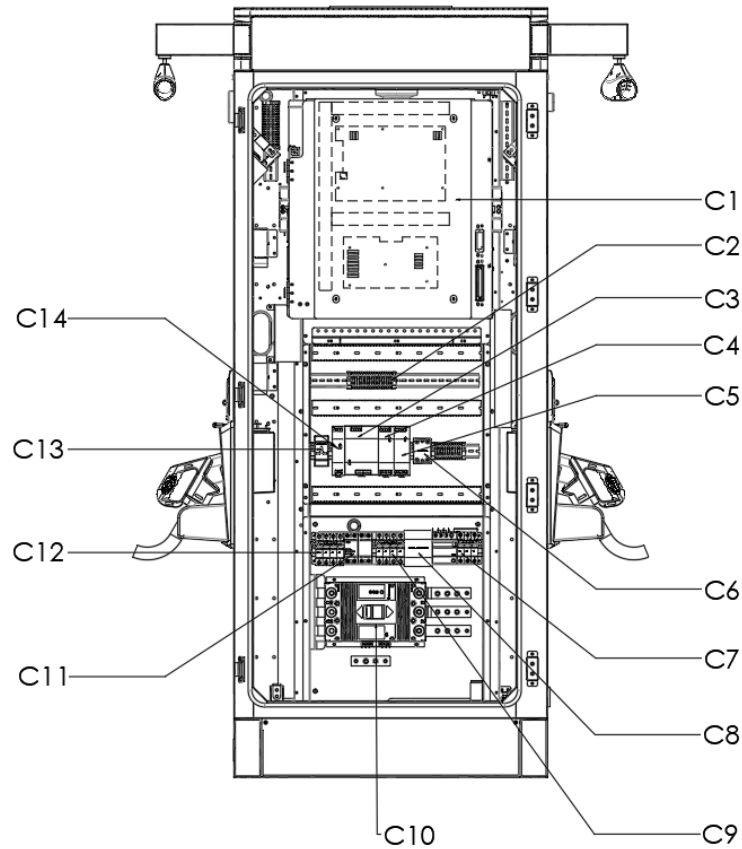

Figure 8 Internal component diagram
- (2) The internal structure diagram of the product is shown in Figure 8